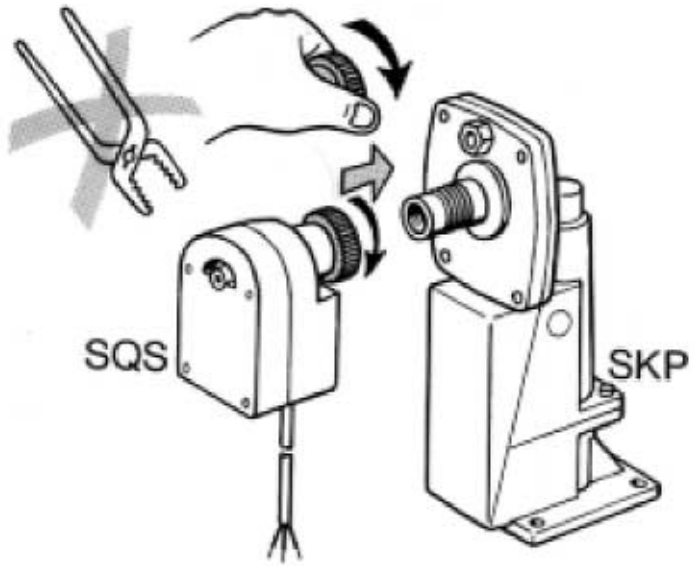
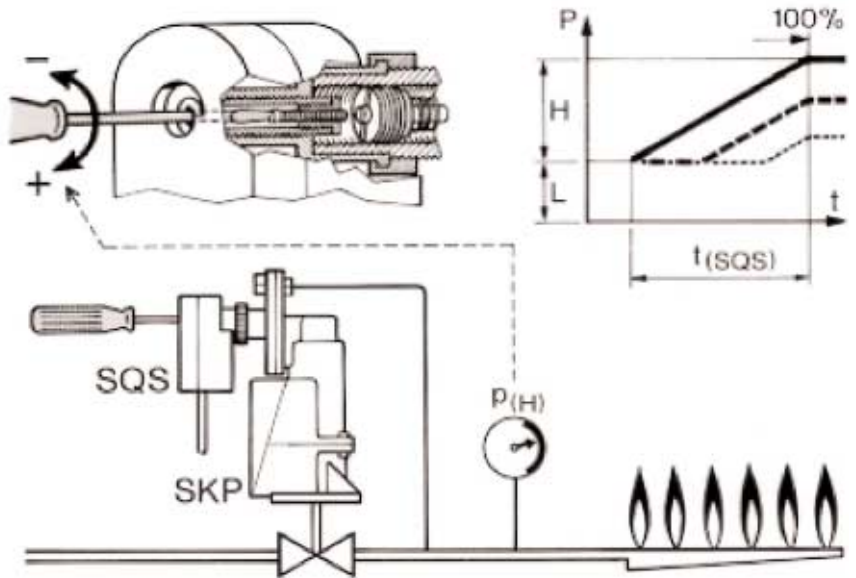

FIGURE 2
FIGURE 3
3. Refit the SQS27 drive motor to the SKP27 actuator. (refer to figure 2) Adjust the low fire rate to 0.12kPa by turning the small screw in the centre of the motor drive. (refer to figure 3)
3. Refit the SQS27 drive motor to the SKP27 actuator. (refer to figure 2)
4. Adjust the low fire rate to 0.92kPa by turning the small screw in the centre of the motor drive. (refer to figure 3)